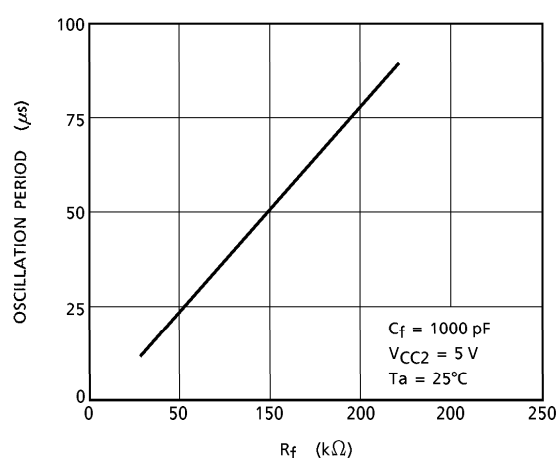
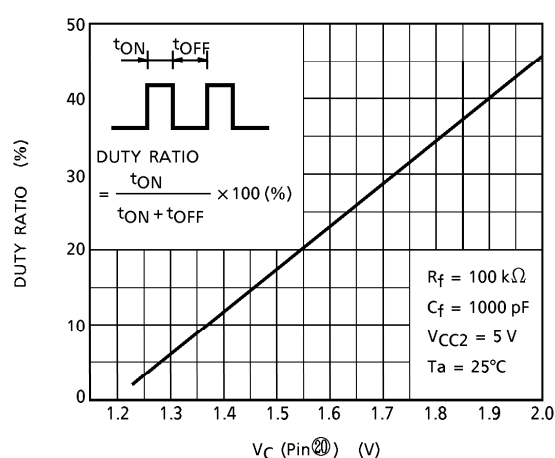

Fig.3 R_f – Oscillation period characteristic
Fig.4 DUTY RATIO – V_C characteristics
Further, R_f and Triangular waveform oscillation period characteristic is shown in Fig.3 and PWM output waveform duty ratio vs. pin⑳ voltage characteristic in Fig.4.